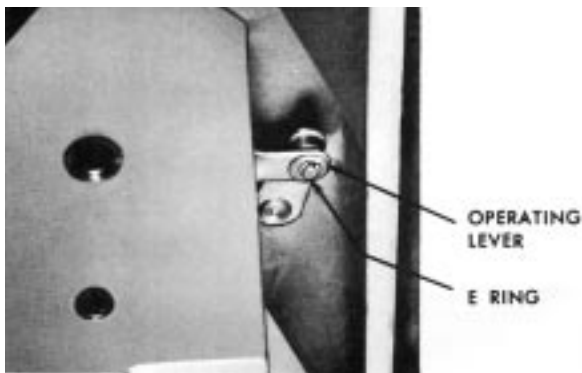

Figure 16
3. If an auxiliary switch accessory is mounted on the recloser head casting, remove the E ring and washer, figure 16, to allow disconnection of the operating lever.